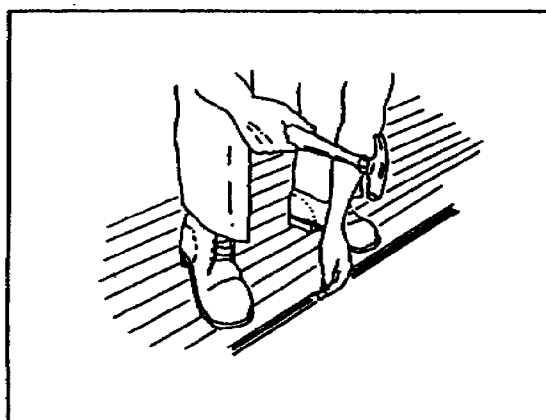

**Figure 1-27. Staggered board joints**
- g. Make sure the board joints are staggered (see Figure 1-27, page 1-20).